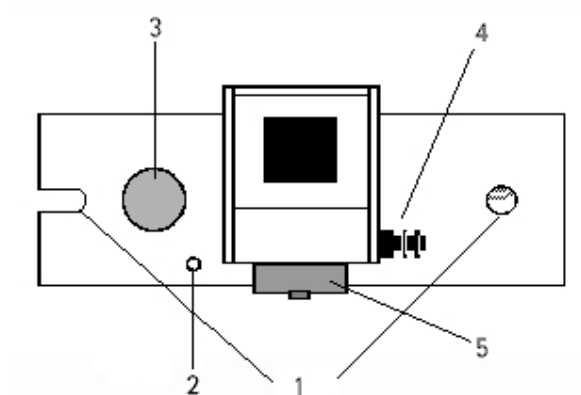

Figure 1: Cell Holder components:
Take the small diameter tubing provided and cut it in half. Attach the tubing to the connectors on the cell holder (item 4 in Figure 1).
Connect the cell holder to the peltier accessory using the ribbon cable (item 5 in Figure 1).